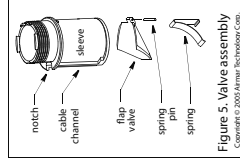

Figure 5. Valve assembly (Copyright © 2008 Airmar Technology Corp.)
**CAUTION:** Be careful to avoid cross threading the CAP nut. Should the valve fail, it will need to be removed for servicing. Follow the steps below. If a key is missing, a key must be made not immediately available. The valve sleeve must be installed in the multisensor housing for a watertight seal. Remove the flap valve, spring pin, and spring from the sleeve (Figure 5). Then reinstall the sleeve in the housing.
4. Clean, repair, or replace the valve assembly, so the flap valve moves freely and seats against the sleeve (Figure 5).
7. Remove the safety wire from the multisensor. With the combined valve assembly and paddlewheel insert ready in one hand, remove the blanking plug. Slide the assembly into the multisensor housing with the arrow on the top pointing forward toward the bow. Be sure the cable fits into the cable channel and the notch in the sleeve fits into the key in the housing (Figure 5). (A pushing twisting motion will locate the key.) Screw the CAP nut in place, being careful to avoid cross-threading. Hand-tighten only. Do not over tighten.